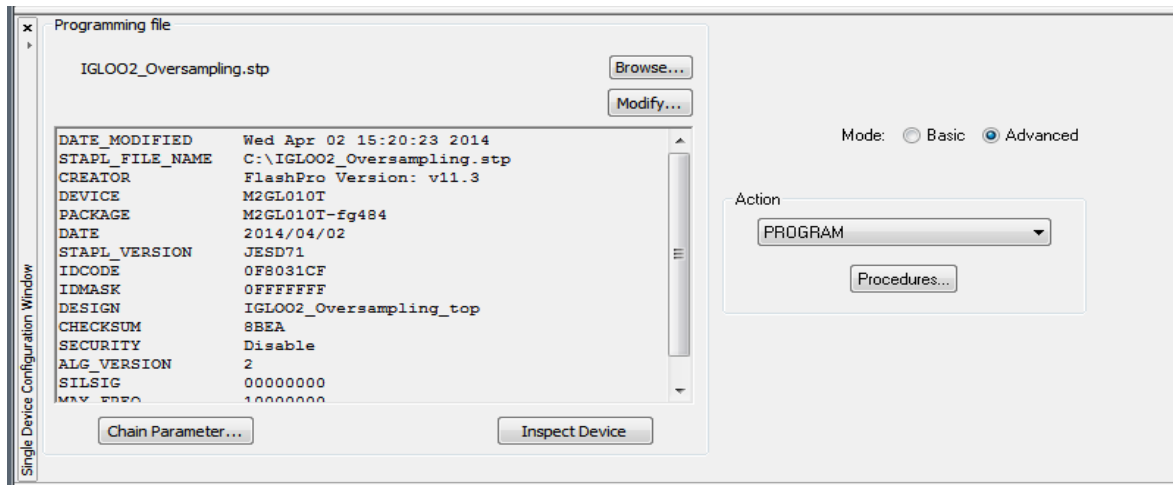

Figure 9 • Single Device Configuration
1. Click **Configure Device**. The **Single Device Configuration** window is displayed as shown in Figure 9.
4. The **Single Device Configuration** Window updates to list your **Programming file** information and the actions available with your Programming file in the **Action list box** as shown in Figure 9. **Program** is the default action displayed in the Action list box.